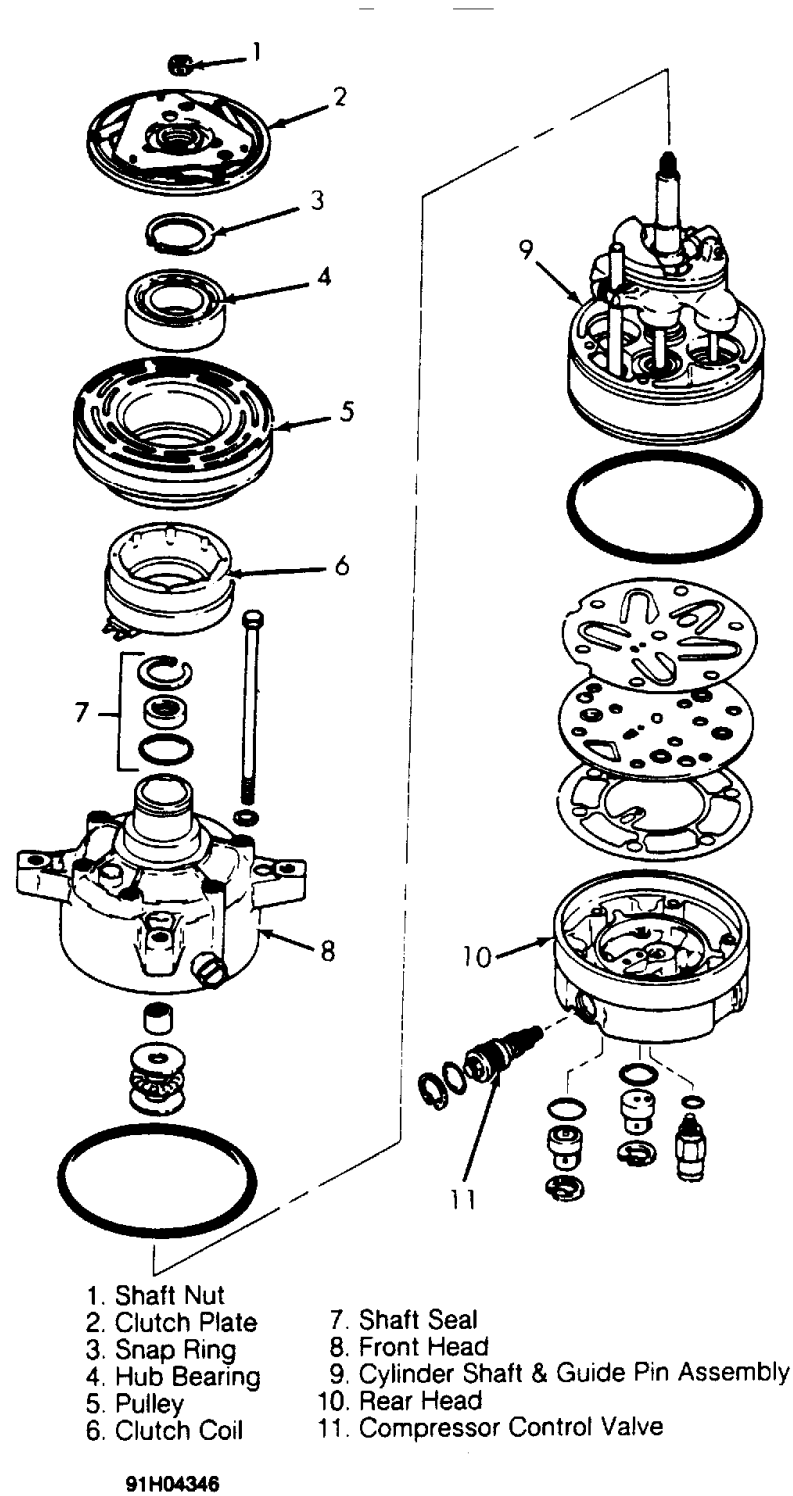

Fig. 8: Exploded View of Harrison V5 5-Cylinder Compressor
4. Install new shaft nut with a small diameter boss of nut against crankshaft shoulder. Use Thin Wall Socket (J-9399) and Clutch Hub Holder (J-25030). Tighten shaft nut to 96-192 INCH lbs. 11-22 N.m). Spin pulley rotor by hand to ensure rotor is not rubbing on clutch drive plate. See Fig. 8 .